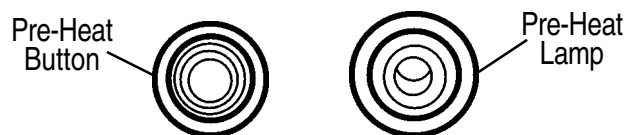

Figure 38. Pre-Heat Button/ Lamp
6. Press and hold the engine preheat button (Figure 38) until the preheat lamp is lit (**ON**).